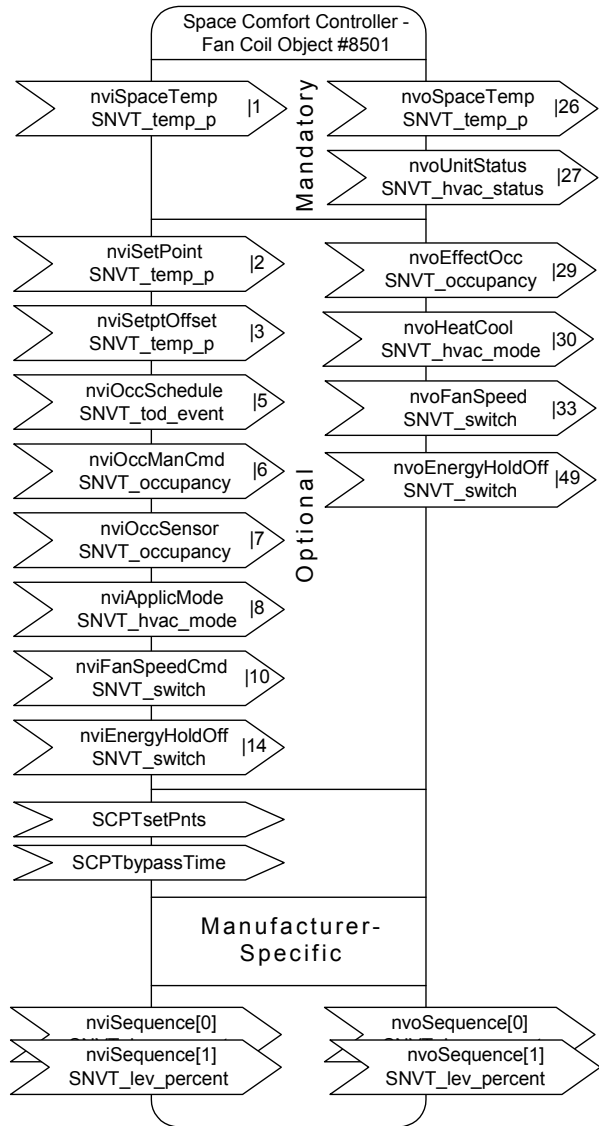

Fig. 8. FCU Controller Object
- one space comfort controller object (#8501 SCC – Fan Coil) (see Fig. 8)